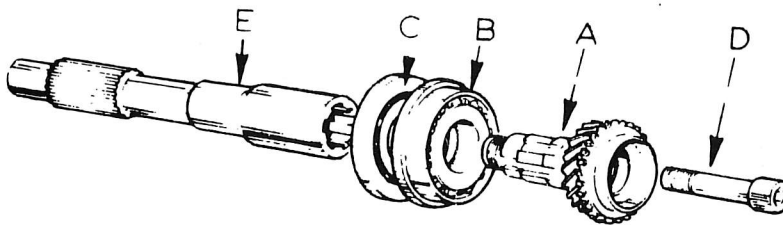

Fig. 31. 1st. MOTION SHAFT ASSEMBLY
1. With the 1st. motion shaft (Part No. B050F 0283B), (A, Fig.31) vertical on the bed of a press (4th. gear end downwards), push on the roller bearing (B, Fig.31) with its flange uppermost, applying load ONLY to inner ring of bearing. Push on ball bearing (C, Fig.31). Check threads of both the bolt (D, Fig.31) and in the input shaft (E, Fig.31), particularly when new components are being used. Ensure, by means of an internal adaptor